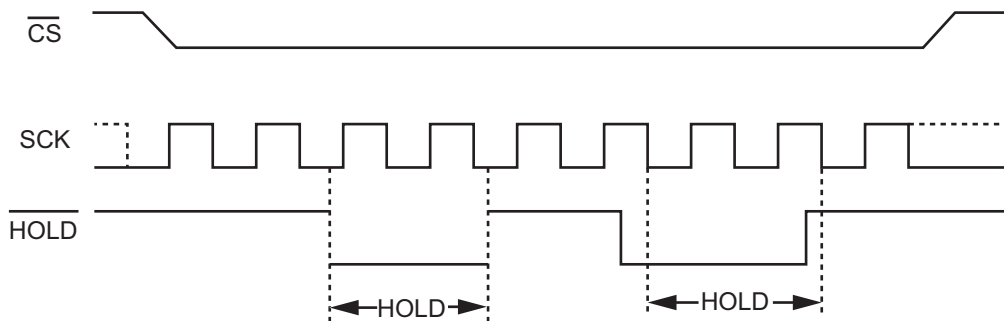

Figure 2. Hold Condition Activation
The Hold condition starts when the Hold ( $\overline{HOLD}$ ) signal is driven Low at the same time as Serial Clock (SCK) already being Low (as shown in Figure 2).
The Hold condition ends when the Hold ( $\overline{HOLD}$ ) signal is driven High at the same time as Serial Clock (C) already being Low. Figure 2 also shows what happens if the rising and falling edges are not timed to coincide with Serial Clock (SCK) being Low.